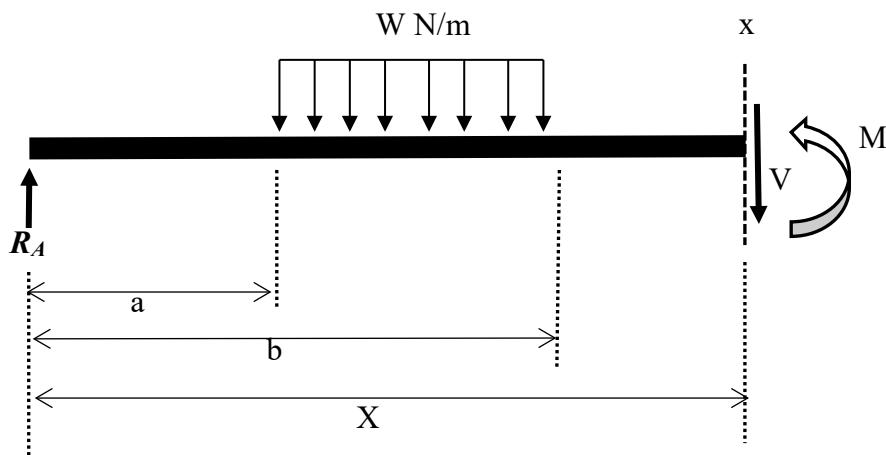

Figure B4(a) / Rajah B4(a)
- CLO2 (a) A simply supported beam is subjected to a uniformly distributed load  $W \text{ N/m}$  in the middle of the span as shown in Figure B4(a). Using Macaulay Method procedure, show the moment equation,  $EI \frac{d^2y}{dx^2}$  when the beam cut at  $x-x$ .